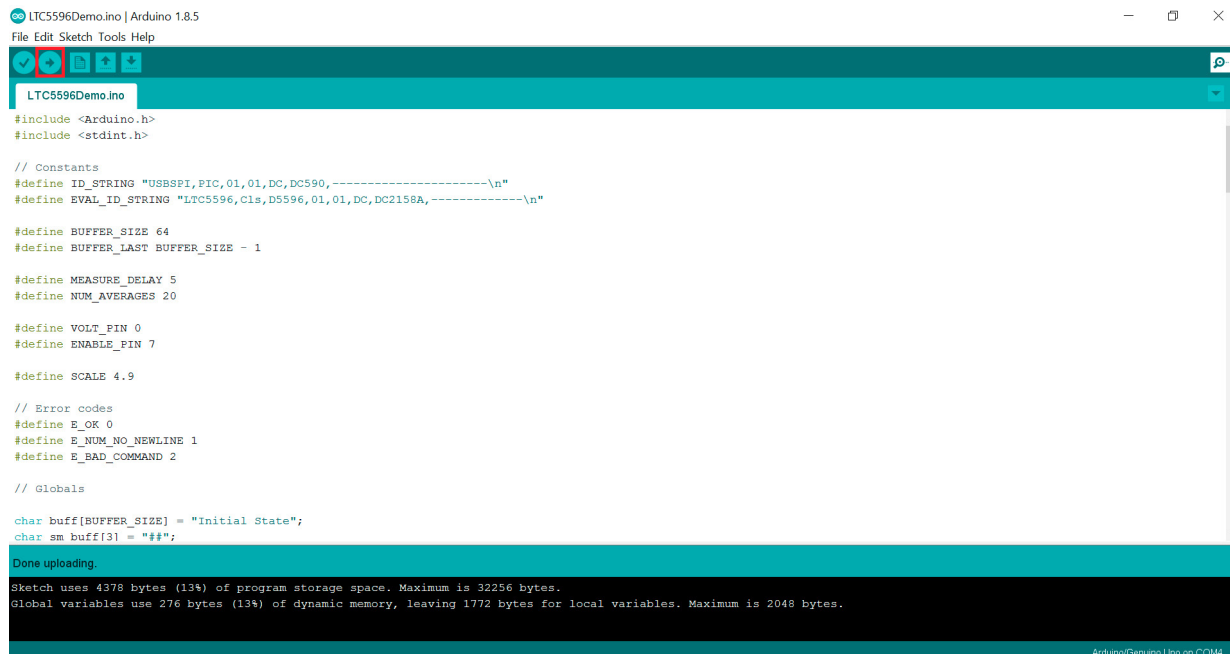

Figure 2. Firmware Re-Load (Only If Necessary)
4. The Eval Kit comes with a Linduino board pre-loaded with firmware. Follow Figure 2 to re-load the firmware if necessary, which can be downloaded from [www.analog.com](http://www.analog.com).